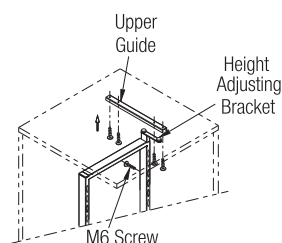

Fig. 6
- 6a. Screw the Upper Guide to the Cabinet as shown in Fig. 6.
- 6b. Loosen the M6 Screw & Lift the Height Adjustment Bracket to engage with the Upper then Tighten the M6 Screw Guide & as shown in Fig. 6.